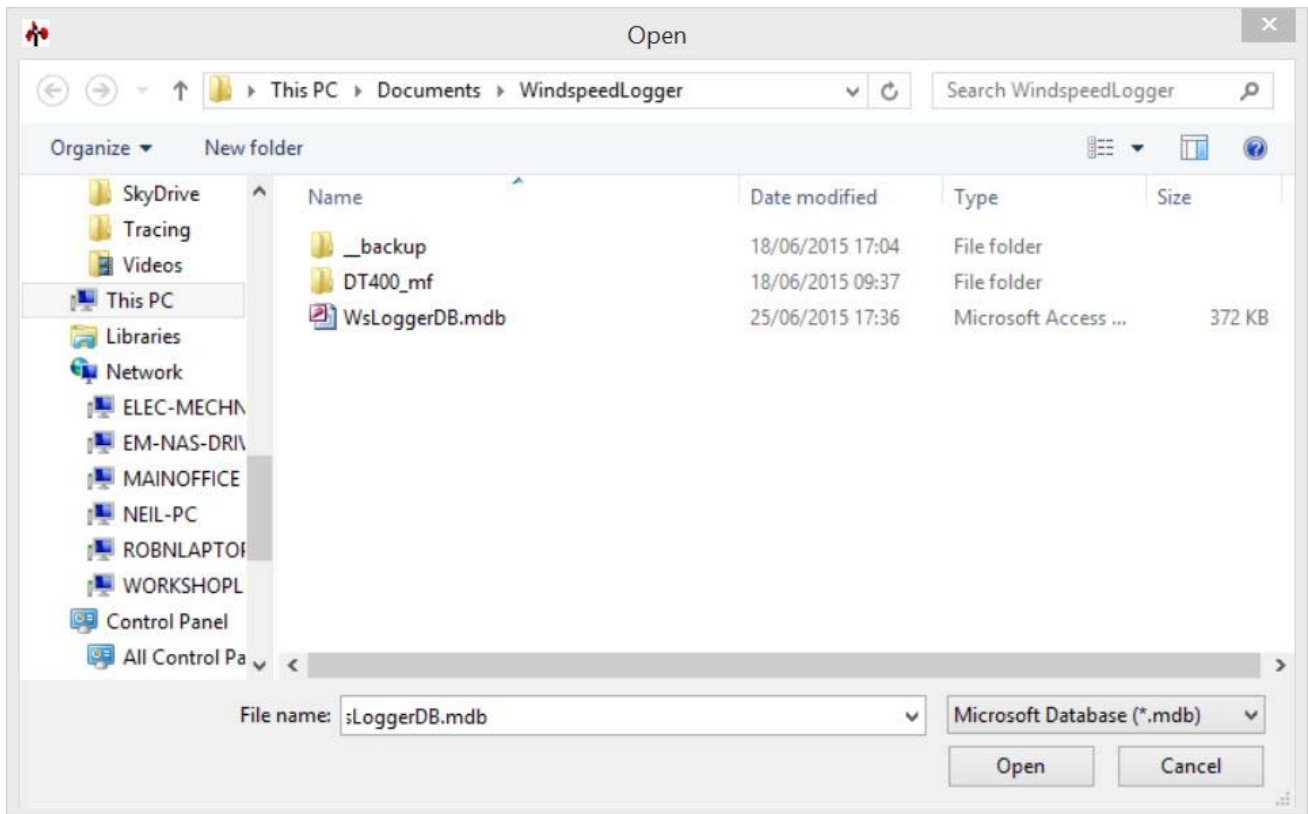

Figure 36
- Select the location of the new data base (**Figure 36**)